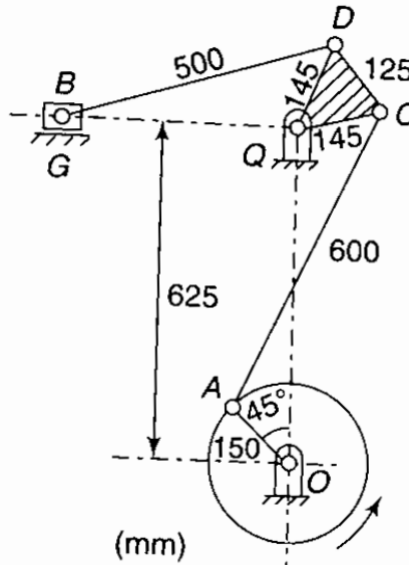

Fig. 4a
- 4 a) In the mechanism shown here in Fig. 4a, the crank OA rotates at 60 rpm. Determine the linear acceleration of the slider at B and the angular acceleration of the links AC, CQD and BD. **20**